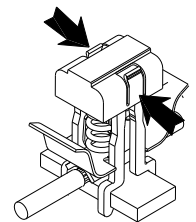

Fig. 27
- unscrew the screw until space is created for inserting the shielding of the shielded cable A1)(Fig. 27);
- pull the indicated tabs upwards and lift until locked in the open position B1)(Fig. 27);